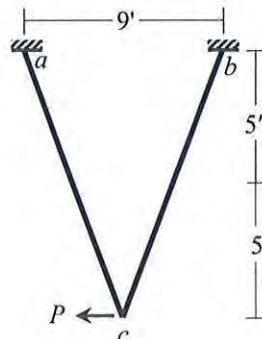

Fig.7
7. Use Stiffness Method (neglecting axial deformations) to calculate the value of applied load *P* required to cause buckling of the frame *abc* loaded as shown in Fig.7
8. Use stiffness method (neglecting axial deformations) to calculate rotation at *c* of the 2D frame *abc* loaded as shown in Fig.7